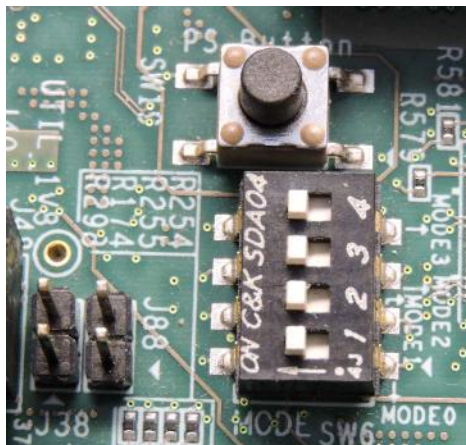

Figure 3-1: SW6 Switch Settings for JTAG Boot Mode
4. Power on the ZCU102 board using the switch indicated in Figure 3-1.
**IMPORTANT:** Ensure that the SW6 switch is set to JTAG boot mode as shown in Figure 3-1.